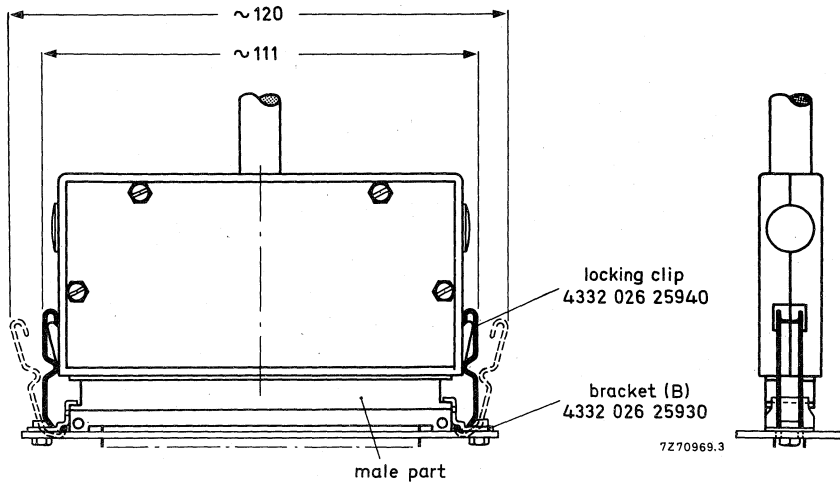

Fig. 45 Cable to panel application.
bracket (B), see Fig. 45	25930